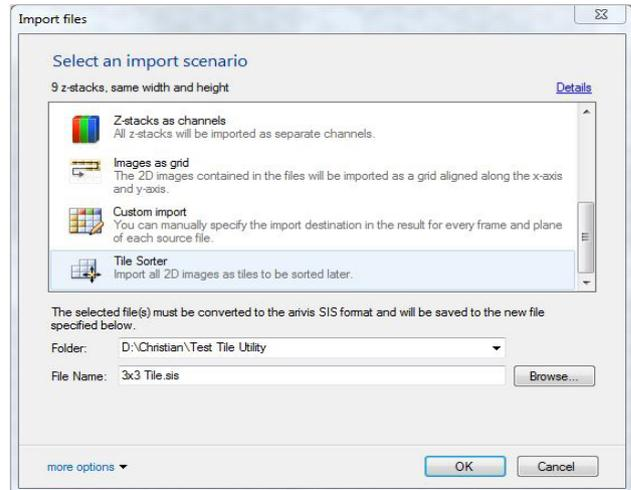

Figure 3 Choose tile sorter and select the import destination from pulldown.
3. Use the Tile Sorter option for import and define the storage location of your .sis file. [Figure 3]